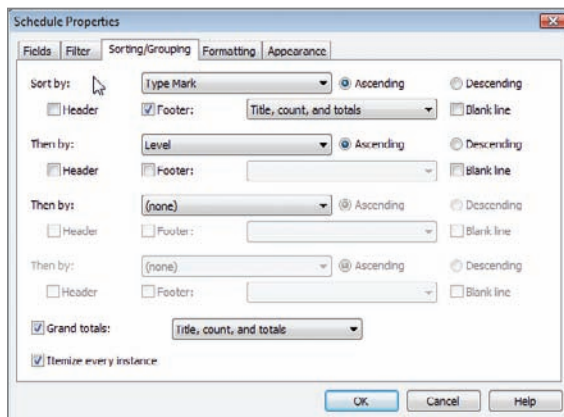

FIGURE 11.23 Specifying the settings for your window schedule
4. Go to the Sorting/Grouping tab, as shown in Figure 11.23.
10. Check the Itemize Every Instance option (see Figure 11.23).